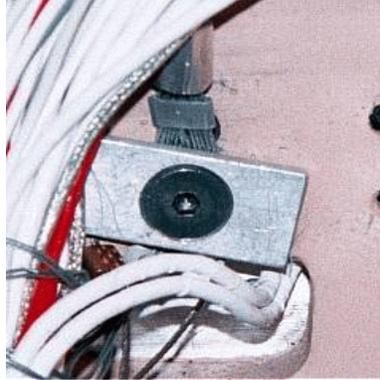

Figure 15.2- Strain relief attachment
1. Attach the adjustable cable support grip (strain relief mesh grip) to the rear of the Lower Abdomen Rear Attachment Plate (T1LAM010) using the Strain Relief Mounting Plate (T1INM010) and a 5/16-18 x 1" FHSCS {3/16}, as shown in **Figure 15.2**.